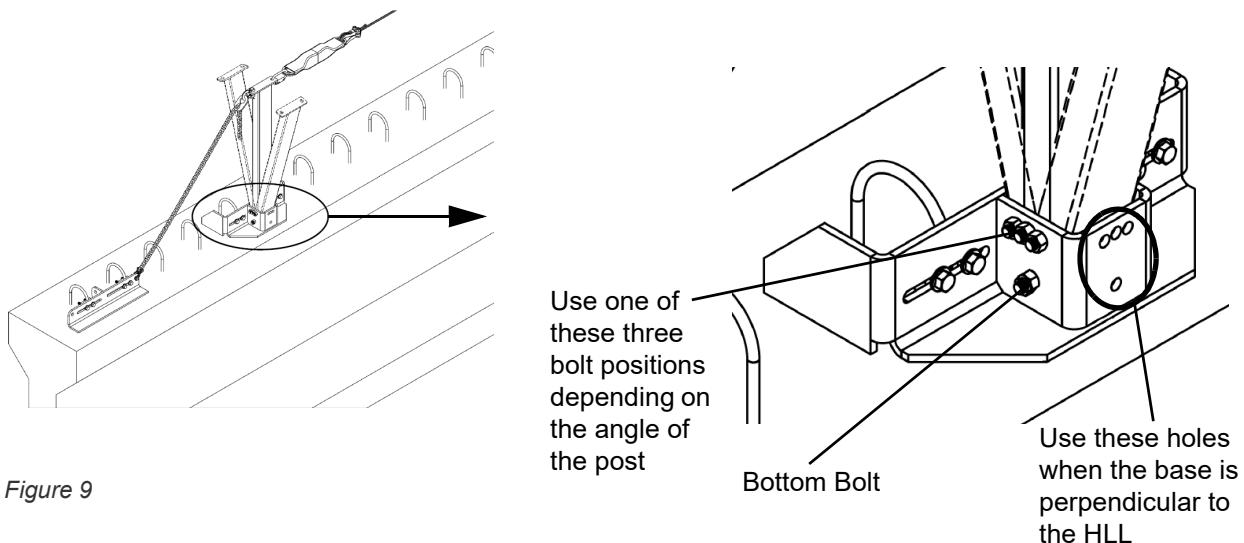

Figure 9
- (1) Remove the stanchion post in the receiver socket on the stanchion base.
- (2) Install the stanchion so the plate at the top of the stanchion post is along the length of the HLL.
- (3) Align the bottom hole of the stanchion post with the bottom hole of the receiver socket.
- (4) Install a 1/2 in. diameter bolt through the bottom hole. See Figure 9.
- (5) Attach a nut and washer, and finger-tighten them.
- (6) The stanchion post can stay in the vertical position or tilt to the left or right.
- (7) When the stanchion is in the applicable position, torque both nuts to 115 ft-lbf (155 Nm).